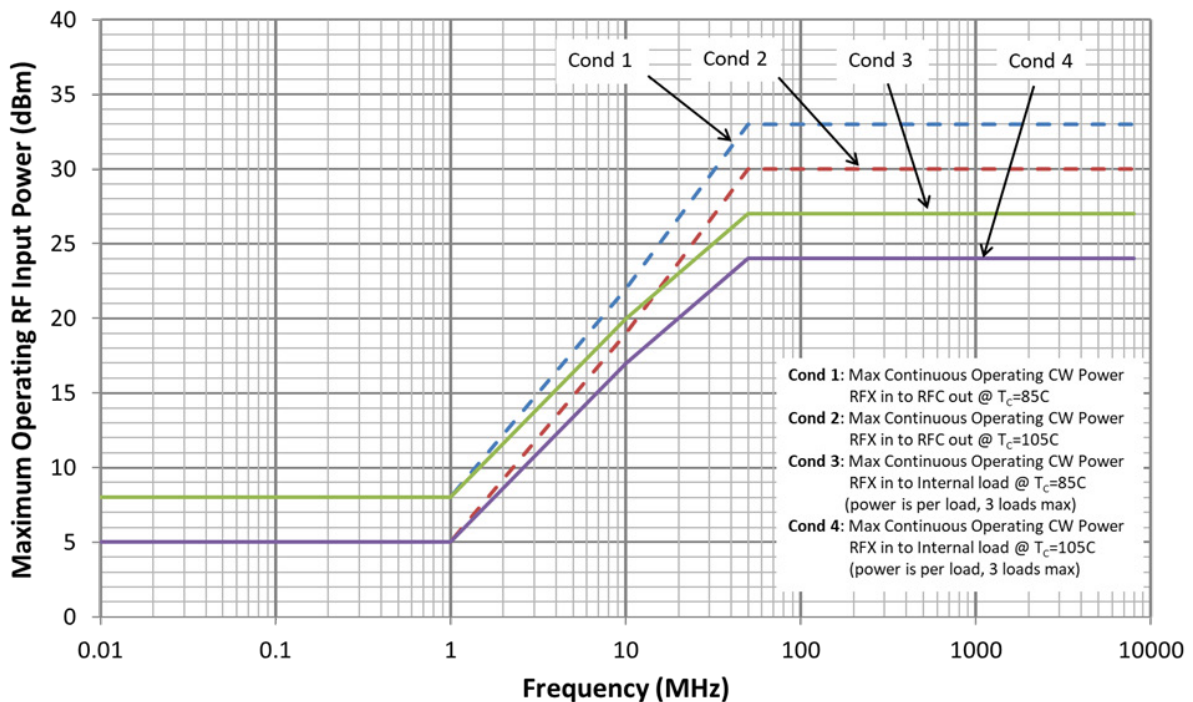

Figure 1. Maximum RF Input Power vs. RF Frequency
| Figure 1. Maximum RF Input Power vs. RF Frequency | 5 |
- Levels based on T_C ≤ 85 °C. See Figure 1 power derating curve for higher case temperatures.
3. The input 0.1dB compression point is a linearity figure of merit. Refer to Absolute Maximum Ratings section for the maximum RF input power and Figure 1 for maximum operating RF input power.